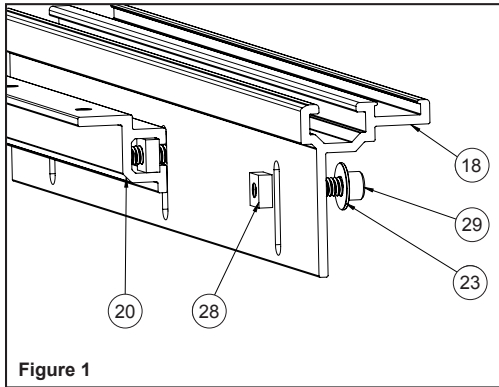

Figure 1
- Slide the screws through the slots in the left and right hand fence track (part #18) **See figure 1.**
- Slide the square nuts (part #28) into the T-slot in the mounting angle (part #20) until the fence track is centred. **See figure 1.**